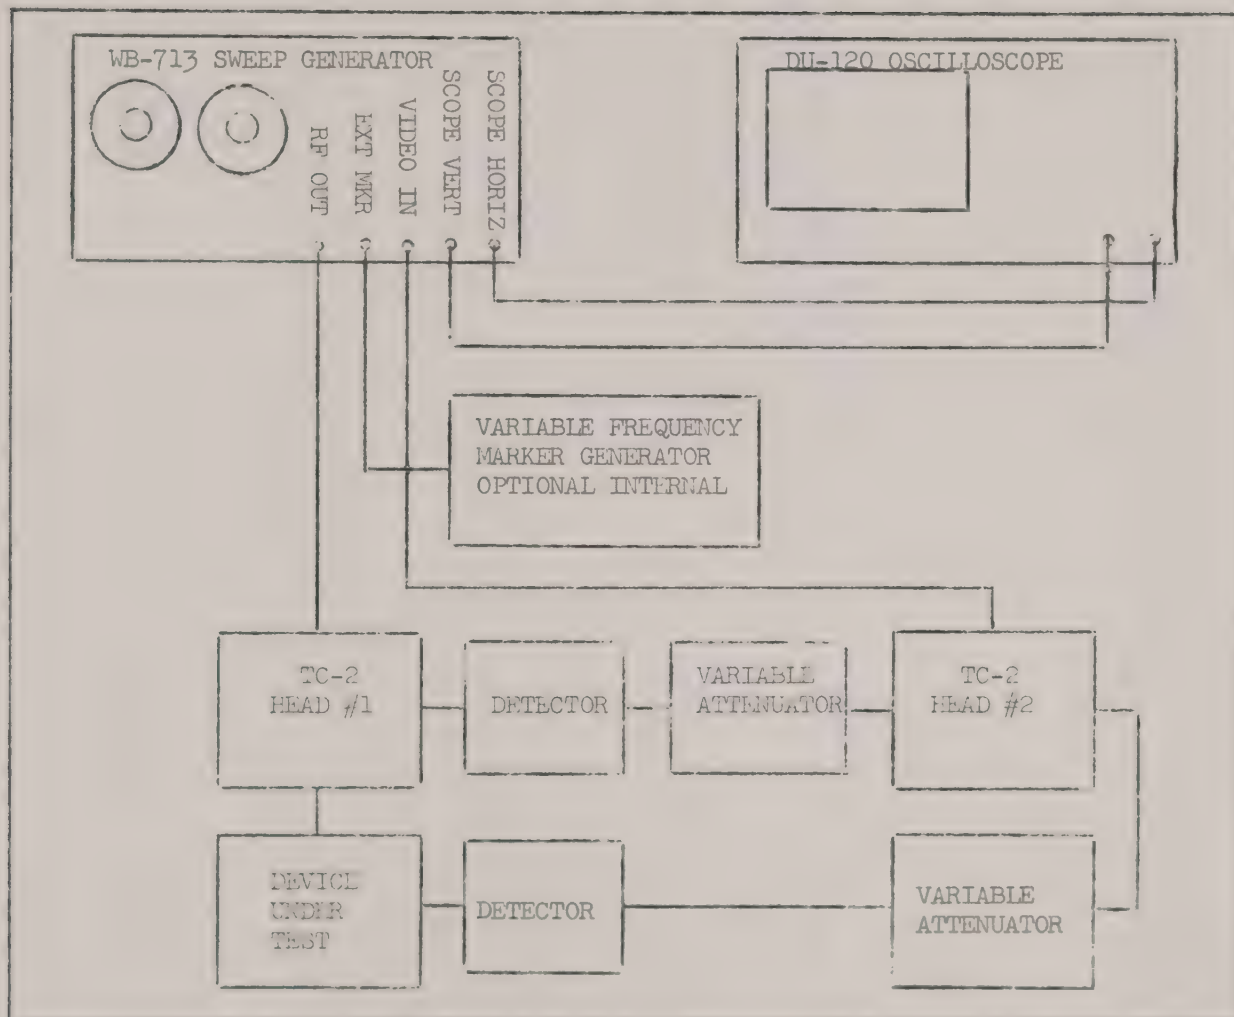

FIGURE 4-1: TEST SETUP
4.3.2 Connect the equipment per Figure 4-1.
4.3.4 Figure 4-1 depicts a method for simultaneous display of input and output levels.